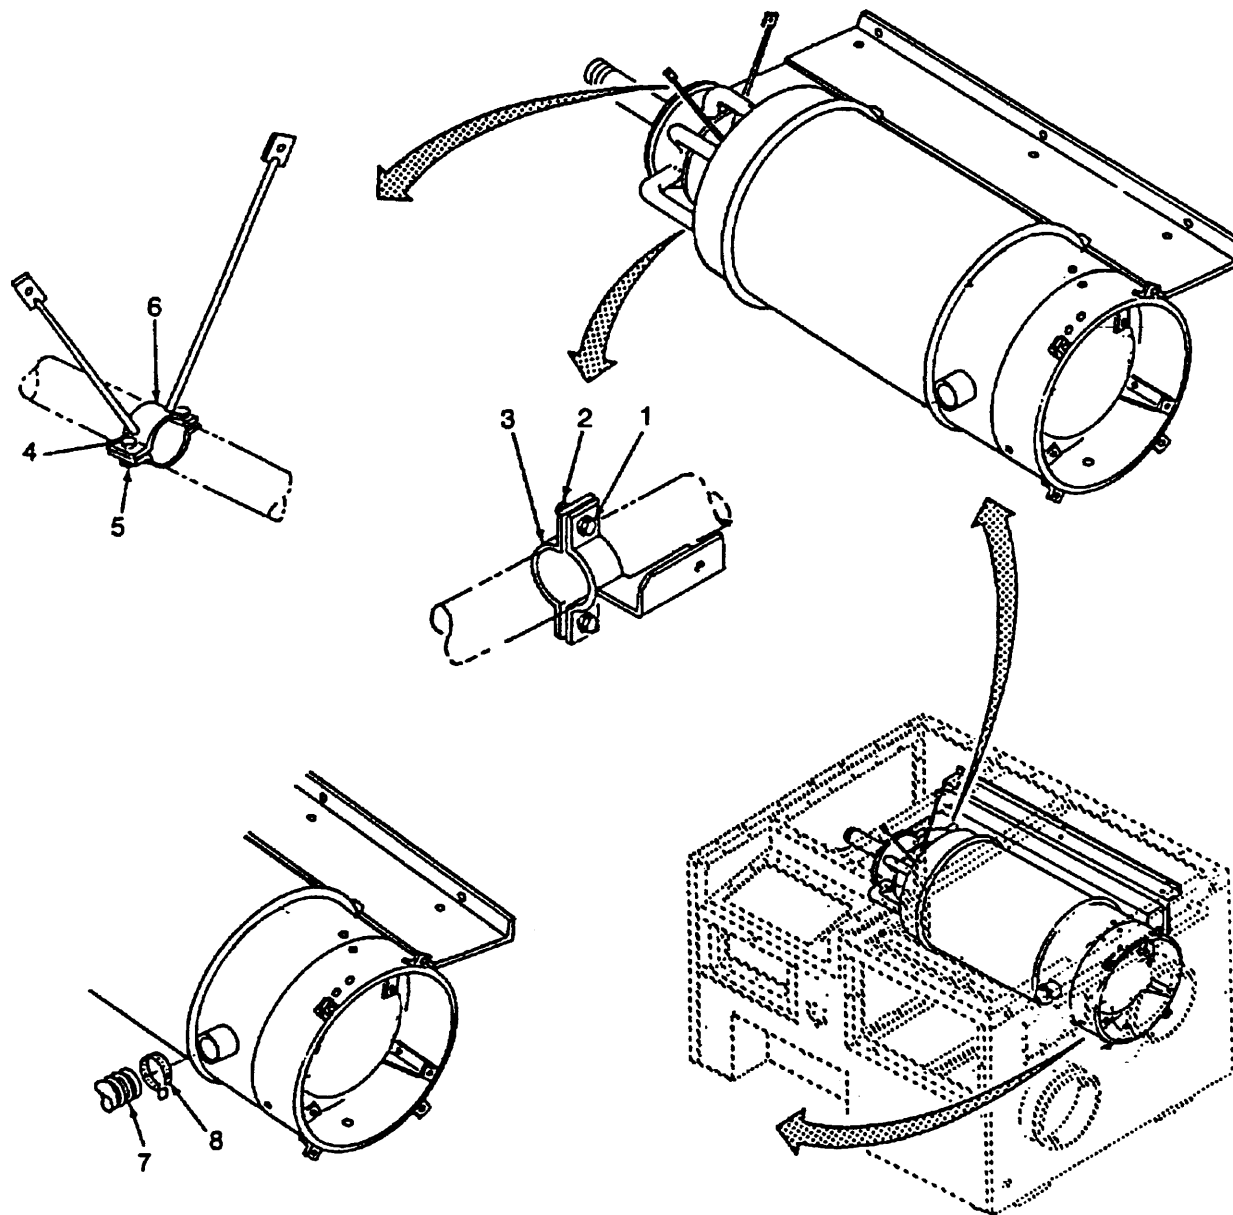

Figure 5-21. Heat Exchanger, (Model H120) Installation
- f. Installation - continued (Refer to Figure 5-21)
- (10) Tighten four screws (1) and four nuts (2) on two clamps (3).
- (11) Tighten two screws (4) and two nuts (5) on clamp (6).
- (12) Connect hose (7) and tighten clamp (8).